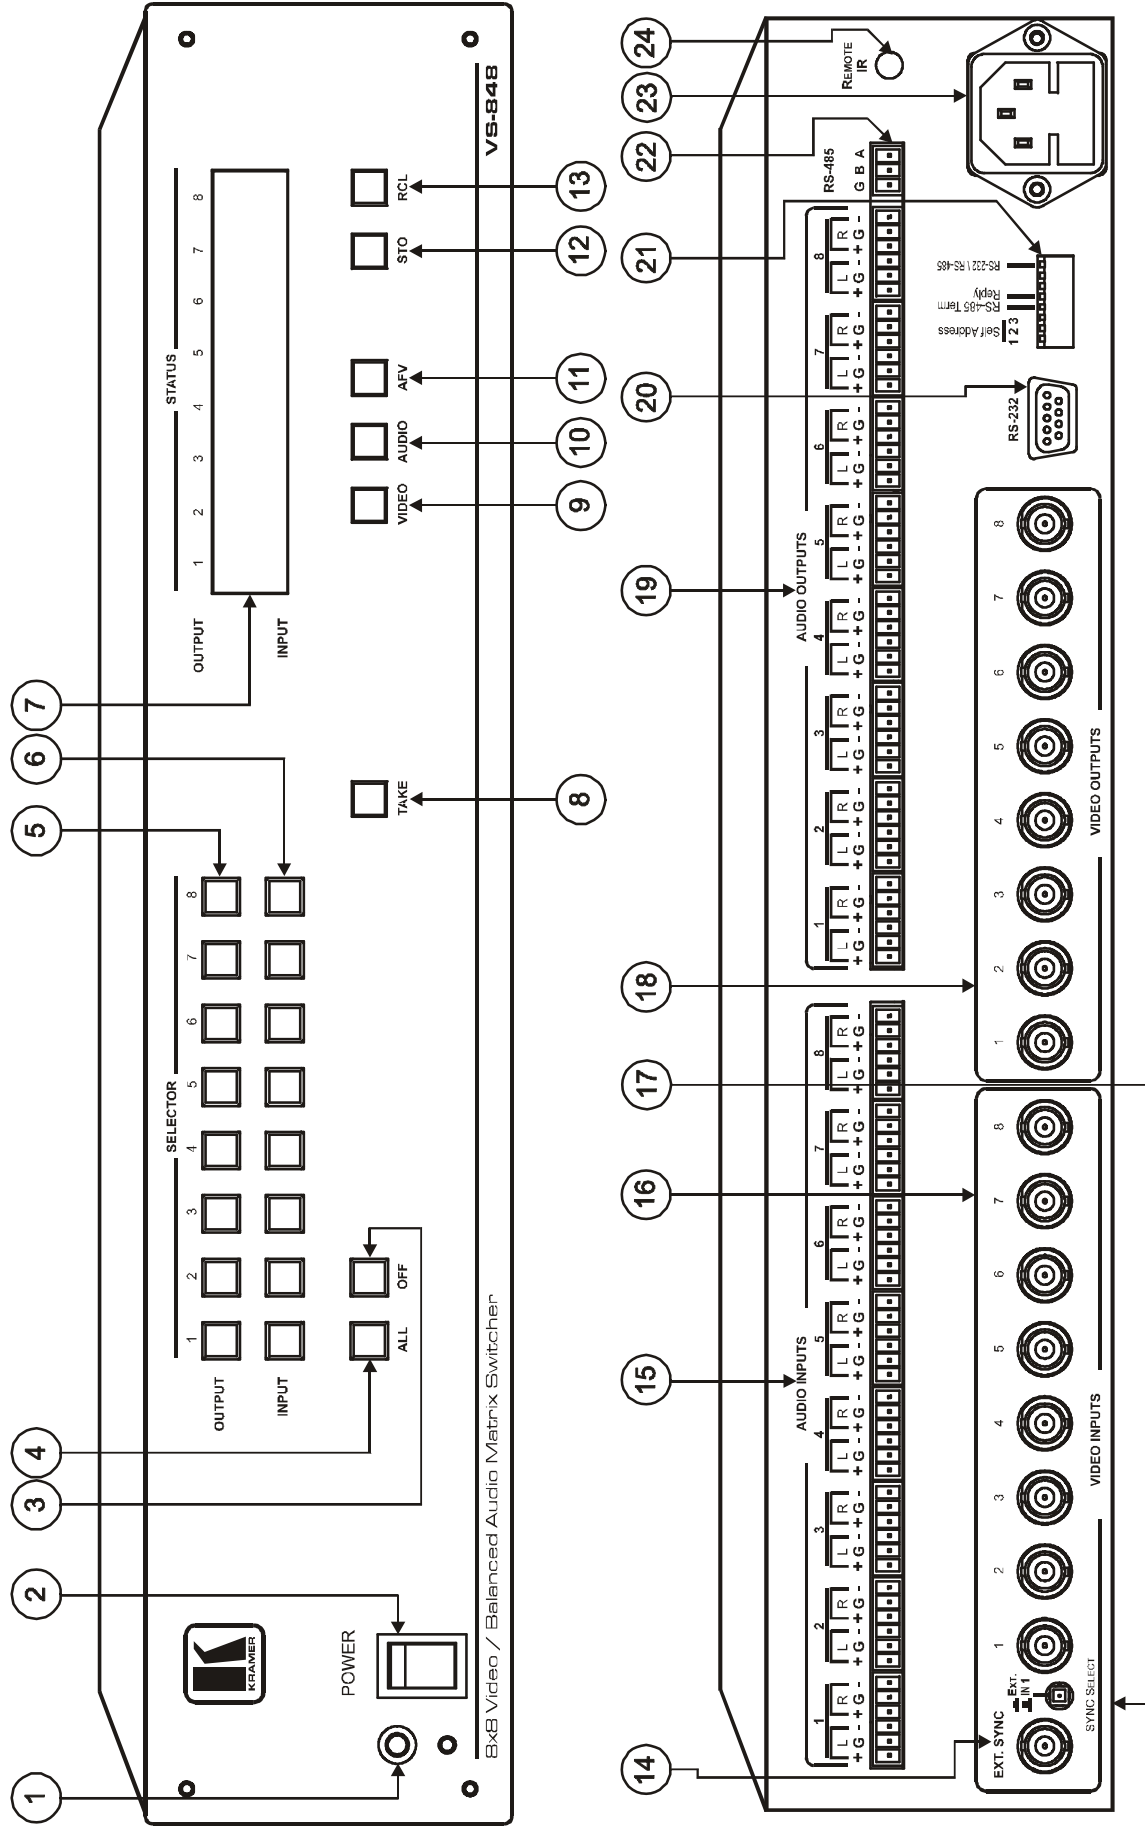

Figure 5: VS-848 8x8 Video/Balanced Audio Matrix Switcher
- **VS-848**, illustrated in *Figure 5*, has 8 inputs and 8 outputs